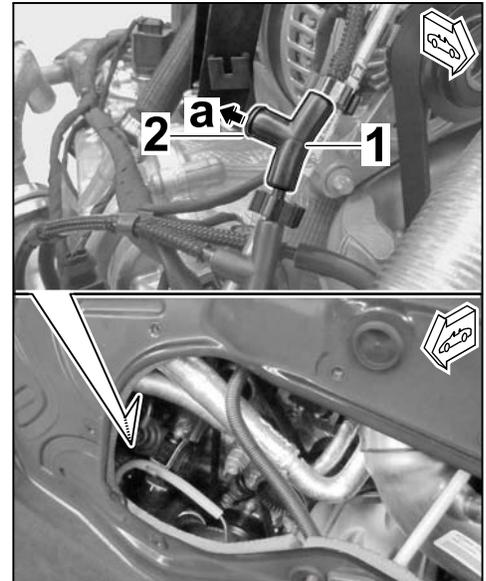

Figure 22
- 3.6.2 Pull dummy plug ⇒ *Figure 22-2*-out of the T-piece ⇒ *Figure 22-1*- (⇒ *Figure 22-a*-).